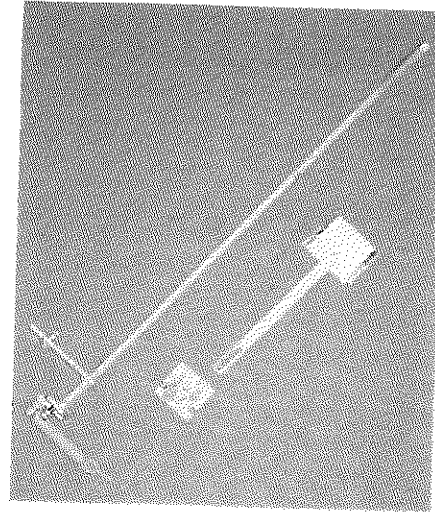

Figure 1
1. See Fig. 1: To remove control handle: